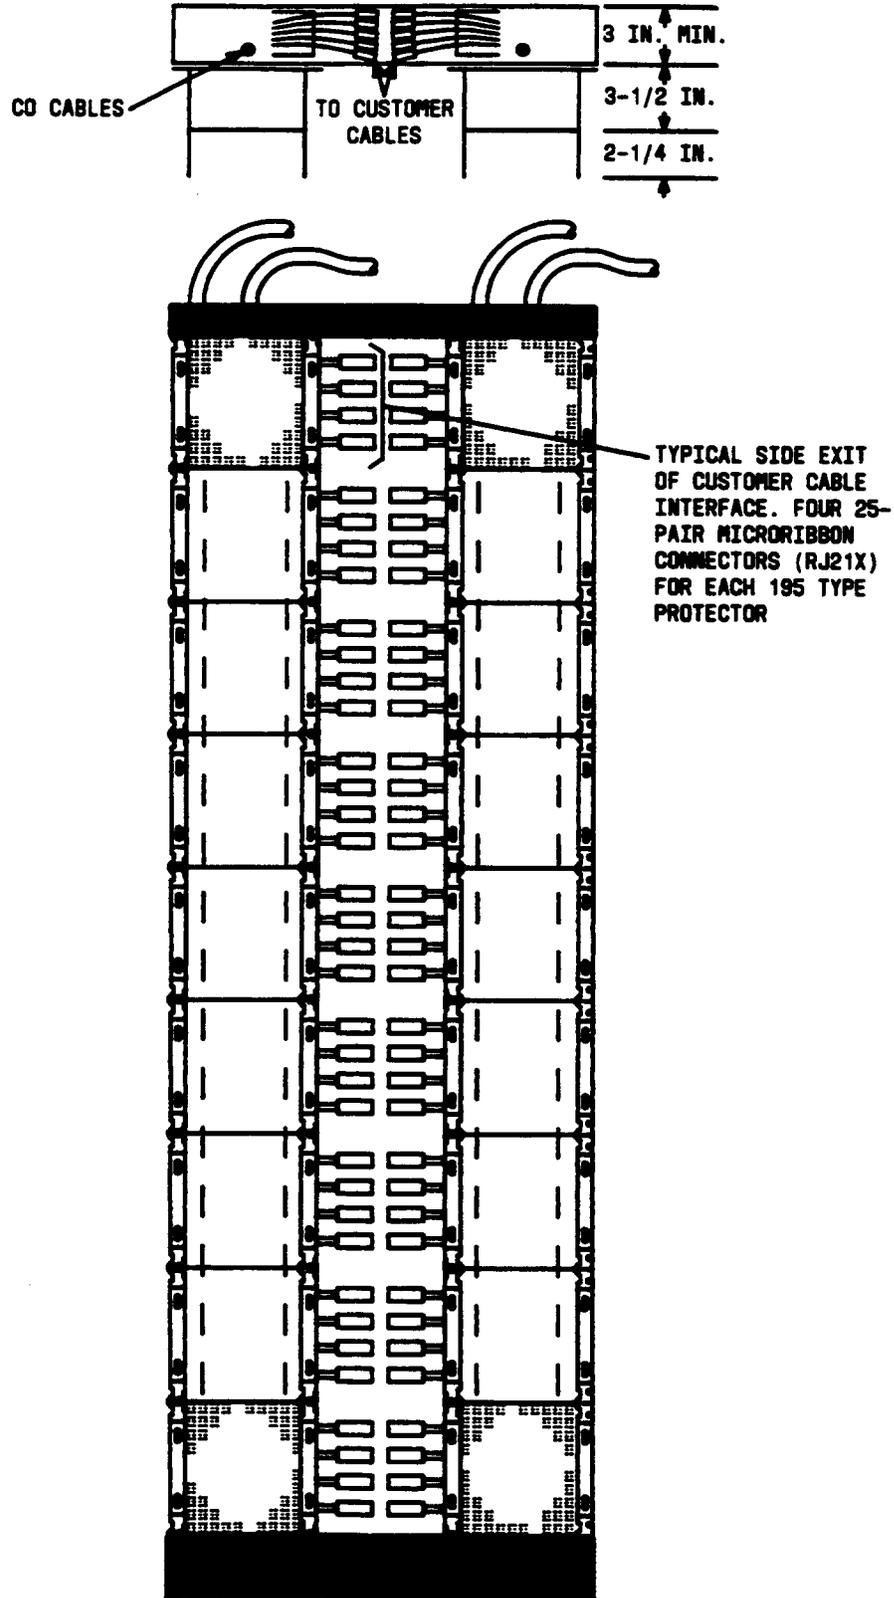

Figure 15—XLBET Protector Frame — Two-Column Configuration (Single Sided)
5.30 The AT&T XLBET (Extra Large Building Entrance Terminal) framework (Figure 15) equipped with 195-type protectors provides a high-density single- or double-sided protector frame for many applications in a minimum amount of space. The XLBET can be cabled from the top or bottom.